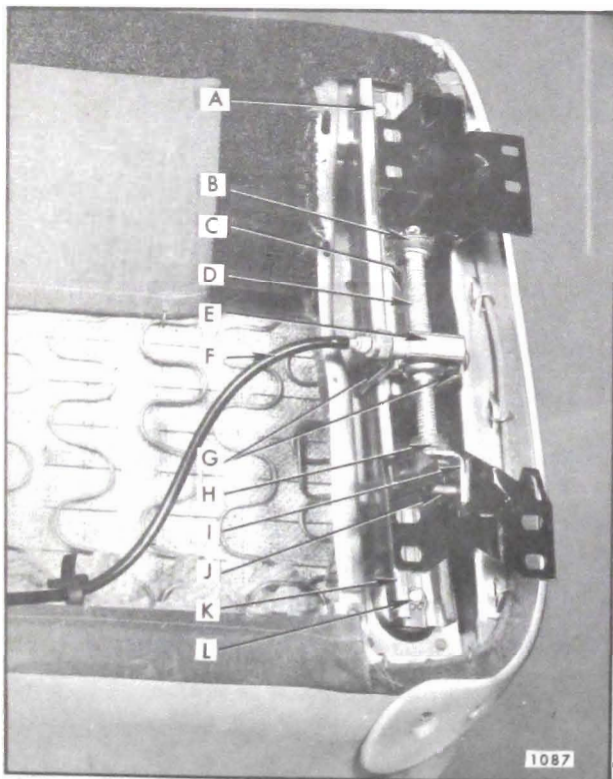

Fig. 15-4—Horizontal Power Adjuster - "C & E" Styles
3. Detach power drive cables from gear nuts of adjuster to be removed (Fig. 15-4, 15-5, 15-6 and 15-7).
4. Remove adjuster-to-seat bottom frame front and rear attaching bolts and remove adjuster from seat assembly (Fig. 15-4, 15-5, 15-6 and 15-7).
3. Using a "clutch" type screwdriver or other suitable tool, remove two shoulder bolts securing gearnut to upper slide portion of seat adjuster (Fig. 15-4).
3. Using a suitable tool (preferably a "clutch" type screwdriver) remove two shoulder bolts securing gearnut to upper slide portion of seat adjuster assembly (Fig. 15-4).
4. Remove retainer that secures stop bracket crosspin to adjuster front pedestal and remove crosspin (Fig. 15-4).
2. Using a suitable tool (preferably a "clutch" type screwdriver), remove two shoulder bolts securing gearnut to upper channel of seat adjuster assembly (Fig. 15-4).